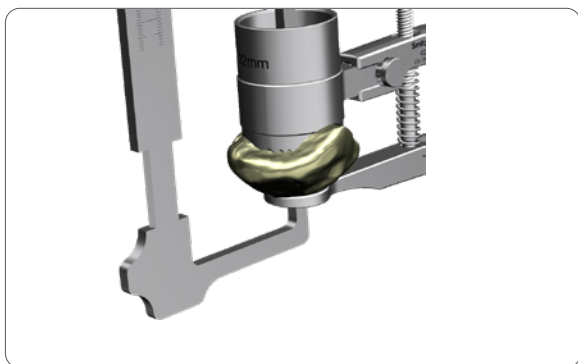

Figure 37
9. If the Round Patella design is selected, use the Caliper to reassess the patella thickness (**Figure 37**).